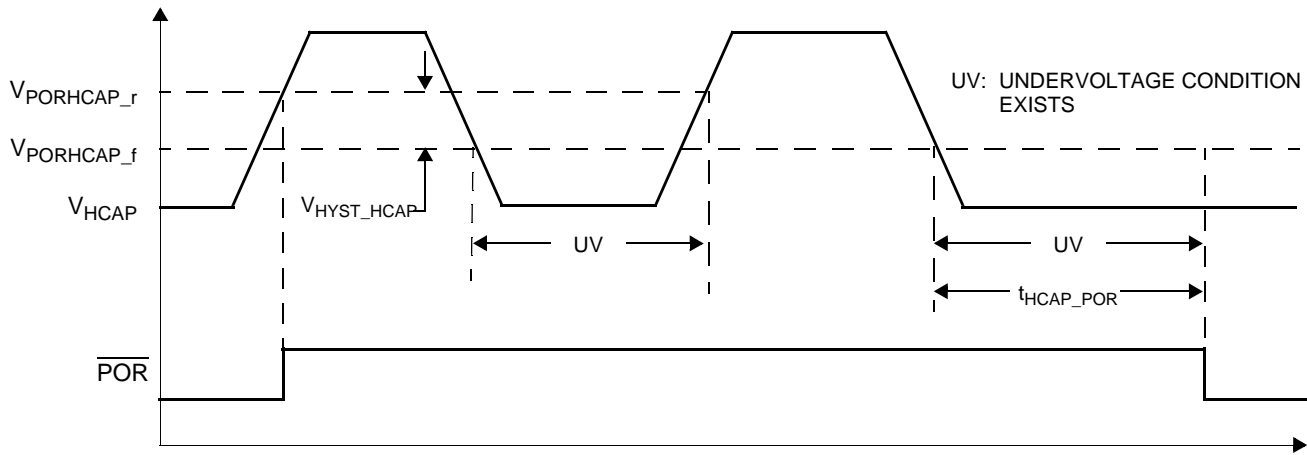

Figure 5.  $V_{HCAP}$  Under Voltage Detection
| 94  | HCAP Undervoltage Reset Delay (See Figure 5)$V_{HCAP} < V_{PORHCAP\_f}$ to POR assertion                                 | $t_{HCAP\_POR}$         | —             | $880 / f_{OSC}$   | —                 | s           | (7) |